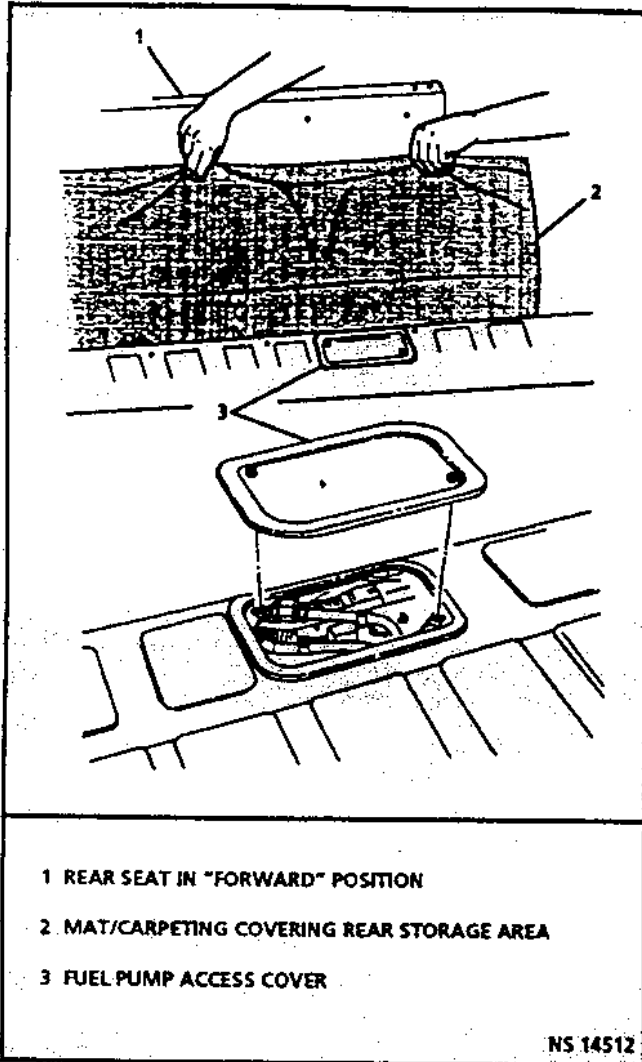

Figure 3.2-4 Fuel Pump Access Panel Location View
2. Disconnect fuel pump connector at fuel pump (Figures 3.2-4 and 3.2-5).